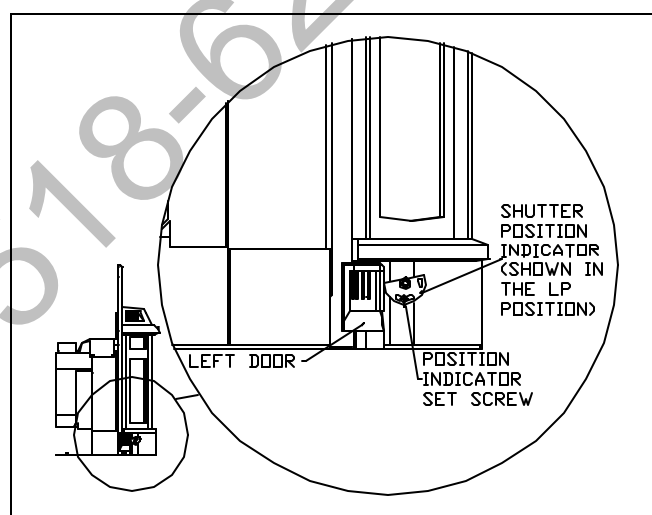

Figure 10: Air Shutter Adjustment
shutters may need adjusting. To adjust the air shutters, open the front left door and locate the shutter position indicator, as shown in Figure 10. Loosen the position indicator screw. The rod should be free to move. The open position (LP) is a counterclockwise rotation, and the closed position (NG) is a clockwise rotation. Carefully adjust the position of the shutter indicator to the desired location. Then tighten the set screw. Very little movement is needed to substantially change the burn and flame pattern.